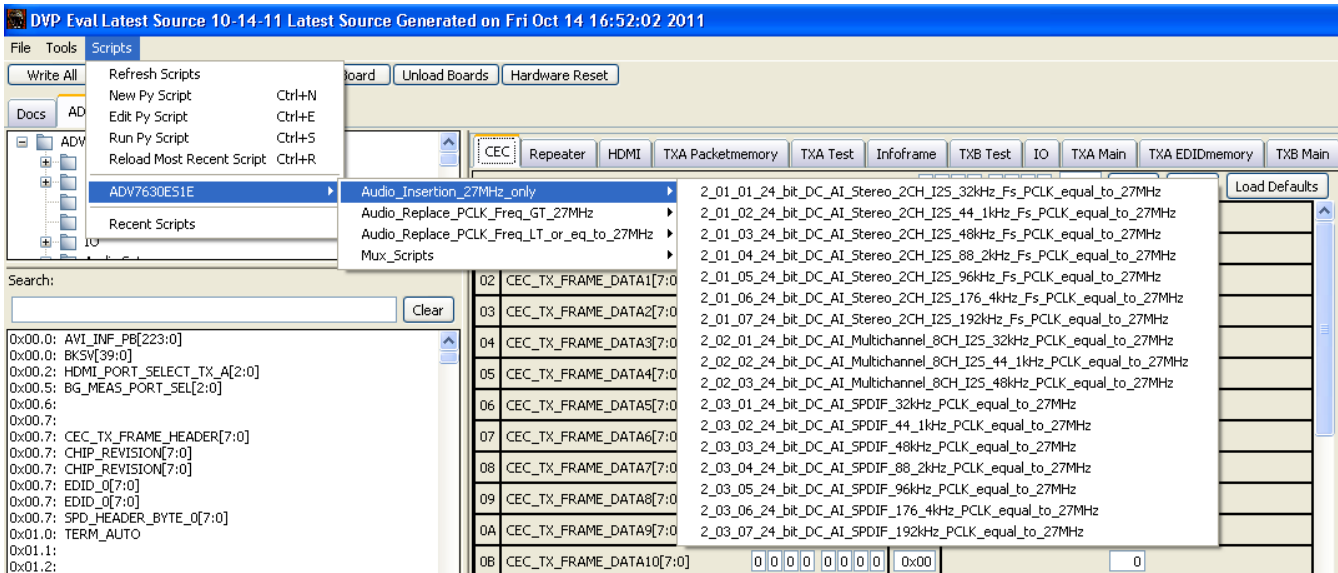

Figure 13 – DVP Eval Script Tree
2. Follow the script tree as outlined in the expanding menus (see Figure 13)